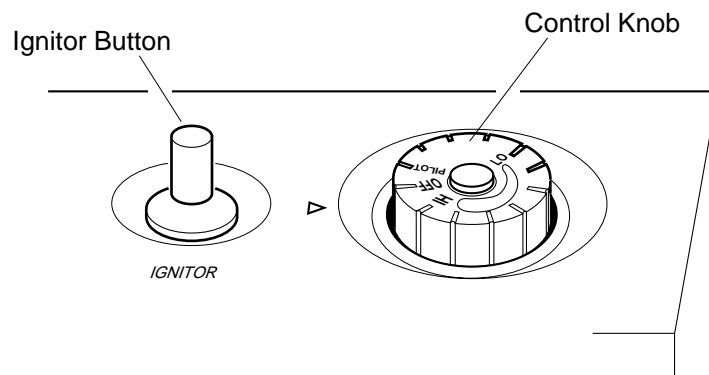

Figure 16 - Control Knob In The OFF Position
4. Wait five (5) minutes to clear out any gas. Then smell for gas, including near the floor. If you smell gas, STOP! Follow "B" in the safety information at the top of page 17. If you don't smell gas, go to the next step.
5. Turn control knob counterclockwise  to the PILOT position. Press in control knob for five (5) seconds (see Figure 16).